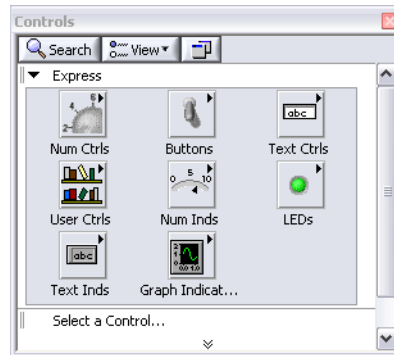

Figure 1-4. Controls Palette
1. If the **Controls** palette, shown in Figure 1-4, is not visible on the front panel, select **View»Controls Palette**.